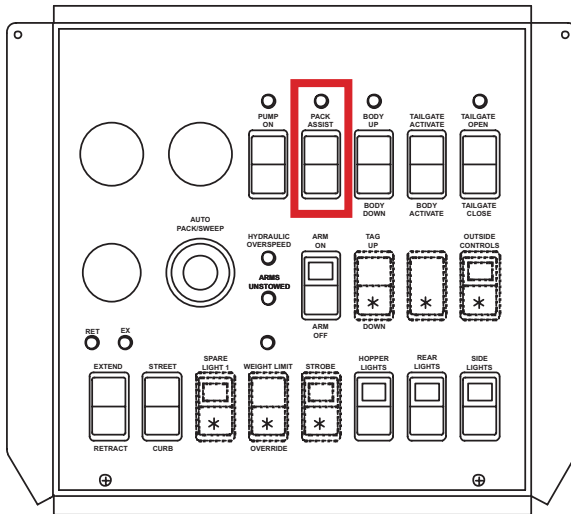
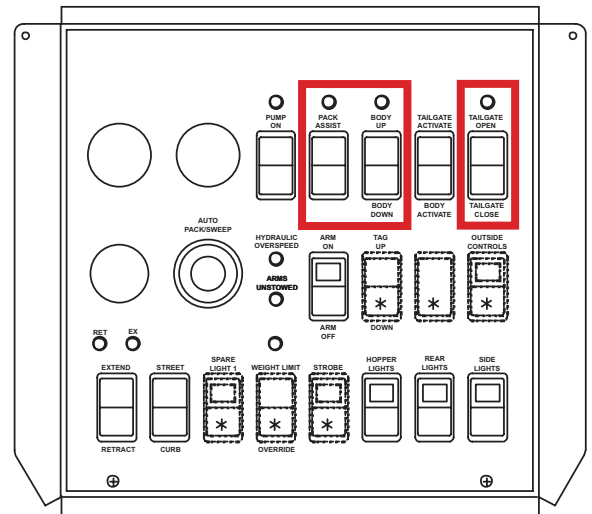
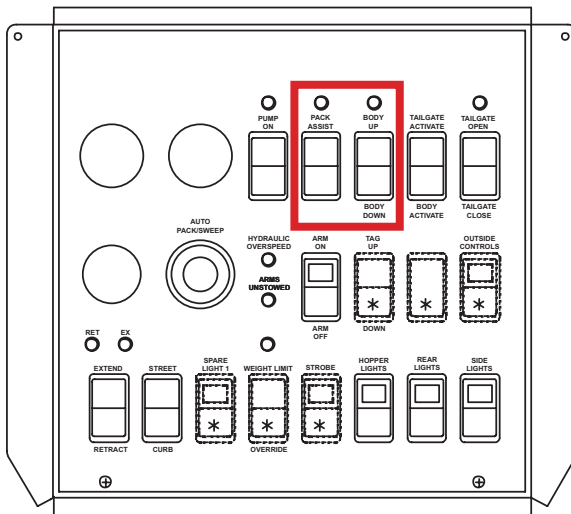
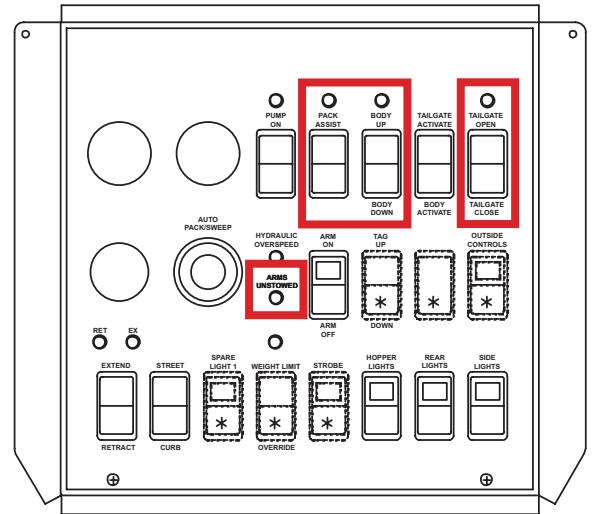

Figure 7
Figure 9
Figure 8
Figure 10
There are four (4) indicator lights that indicate the current pack count. The pack count is the number of times the auto-pack will cycle when the auto-pack rocker switch is pressed. The indicator lights are on the Pack Assist, Body Up, Tailgate Open, and Arms Unstowed rocker switches. The number of indicator lights turned on represents the current pack count (see Figure 7, Figure 8, Figure 9, and Figure 10 for indicator lights in correlation with current pack count). The following procedure is to change the pack count from the factory default setting of three (3).